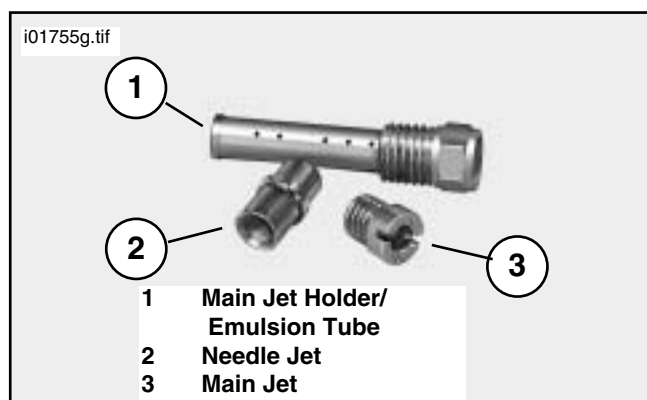

Figure 2. Stock Carburetor Jets and Holder
1. See Figure 2 and Service Parts Illustration. Place the carburetor upside down on a bench. Remove the chamber assembly and the carburetor float bowl. Remove the stock main jet and emulsion tube, sometimes referred to as the main jet holder. Ensure that the Needle Jet does not fall out during this procedure. Replace the stock emulsion tube with the new DYNOJET emulsion tube (11) provided. When the DYNOJET emulsion tube is fully seated, there will still be threads visible. Install the DYNOJET main jet provided. Use the BJ175 main jet with a completely stock bike. Use the BJ185 main jet with an aftermarket airbox, and/or aftermarket exhaust. With an aftermarket airbox, exhaust, and cams use the BJ195 main jet. With extensive engine work ie: cams, pistons, head work, airbox and exhaust, it may be necessary to use the BJ200 main jet.